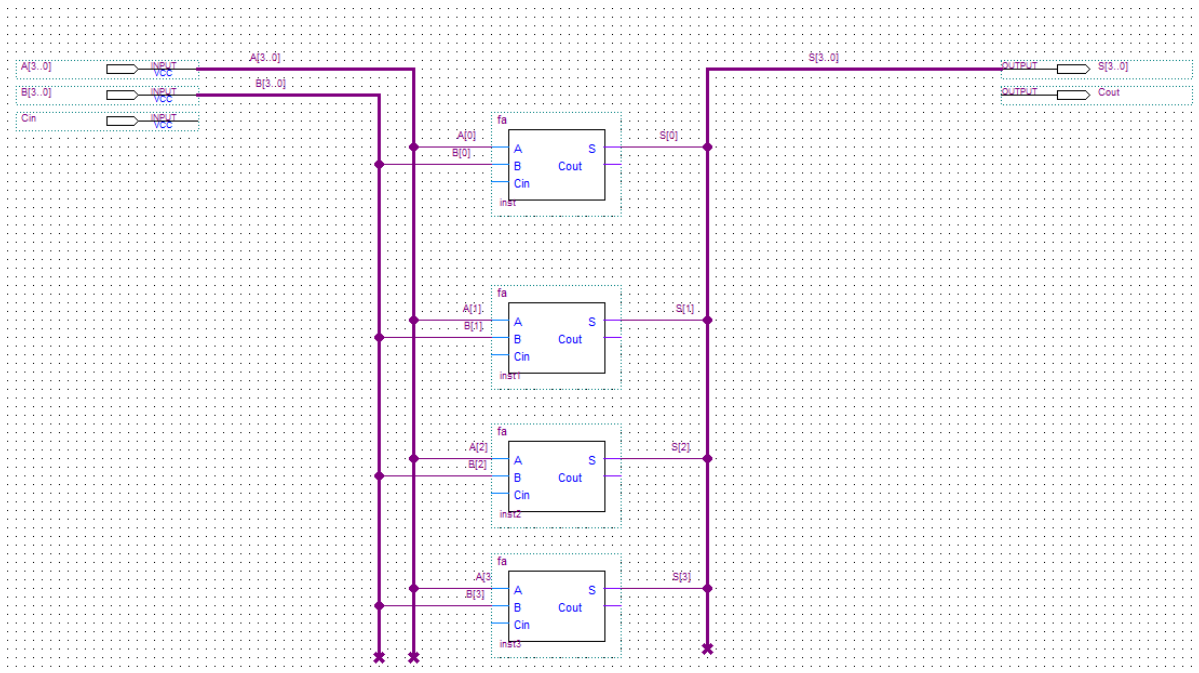

Figure 14
- 39) Name the remaining wires connected to the A[3..0], B[3..0], and S[3..0] to match Figure 14.